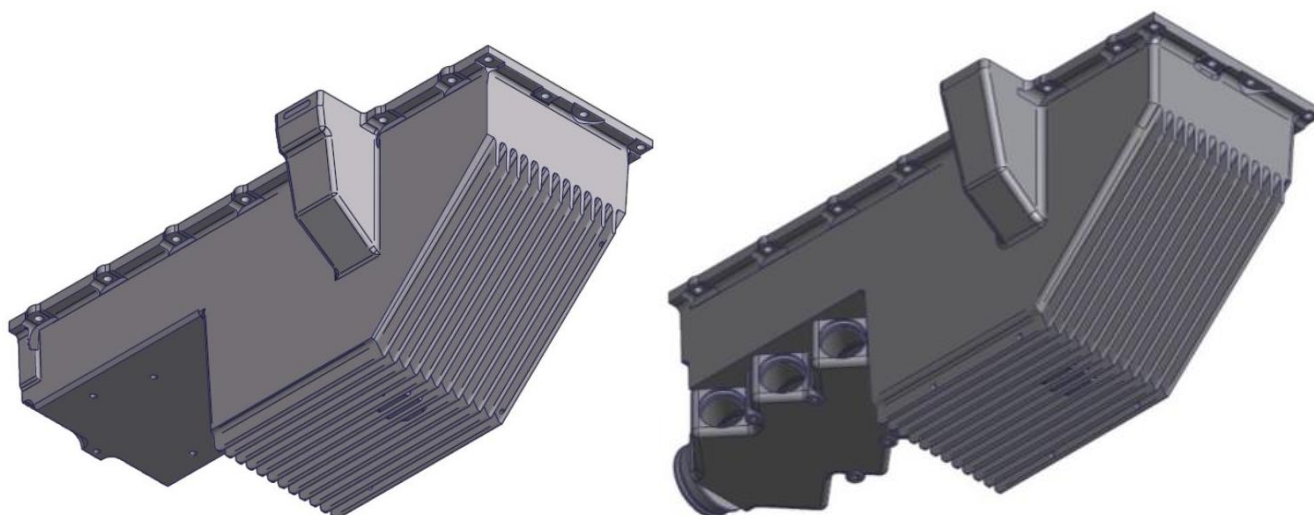

Figure 104 – 3300 Engine Sumps
- 3300 engines: two types of sumps, shown in Figure 104, are acceptable for use. Note the intake tubes leaving the manifold at an angle.
- Current engines use an induction cast into the sump as shown in Figure 104 (right).